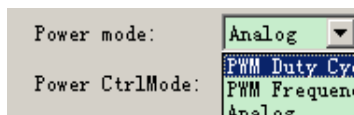

Fig.3-17
- Power mode: Different scheme of laser machine, the power mode is also difference. Three options are available, as in Fig. 3-17:
- ◆ Power Control Mode: Two energy control modes are available: Linear servo and constant value output, as in Fig. 3-17.